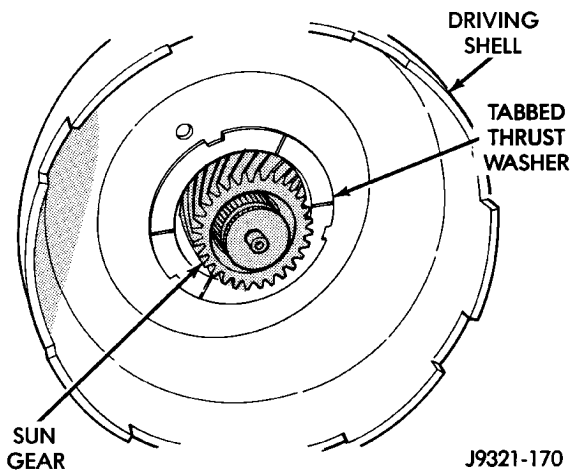

Fig. 176 Driving Shell Thrust Washer Removal
(4) Remove tabbed thrust washer from driving shell (Fig. 176). Note washer position for assembly reference.